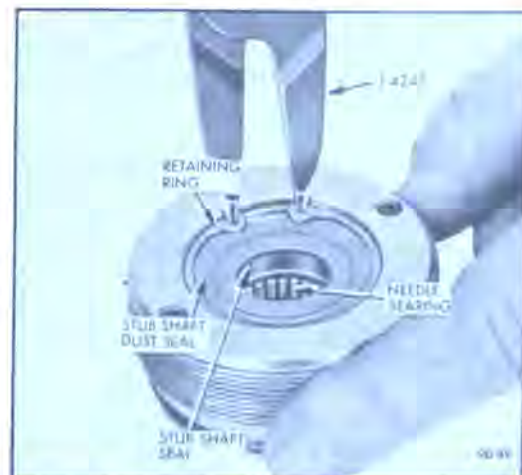

Figure 90-34 Removing Stub Shaft Seal Retaining Ring
3. Remove stub shaft seal retaining ring using No. 3 truarc pliers J-4245 and remove and discard dust seal. See Figure 90-34.